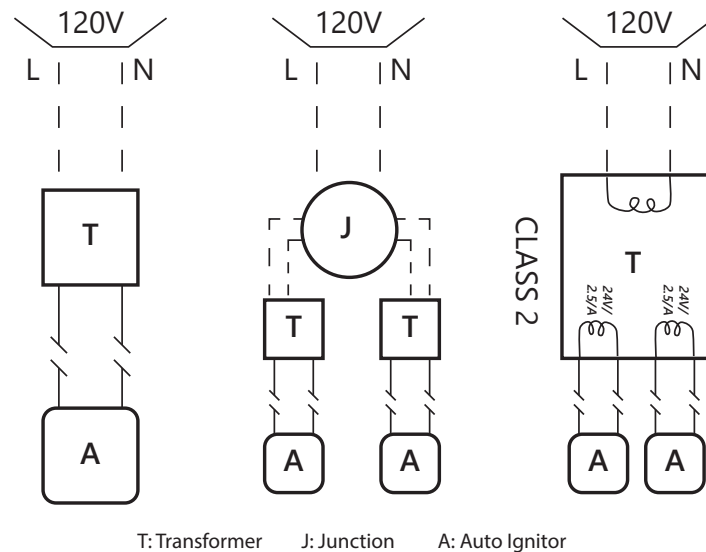

FIGURE 3: WIRING DIAGRAM
- b. Connections (Fig 3)
2. Connect 120V to the included or approved Class 2 transformer (T).